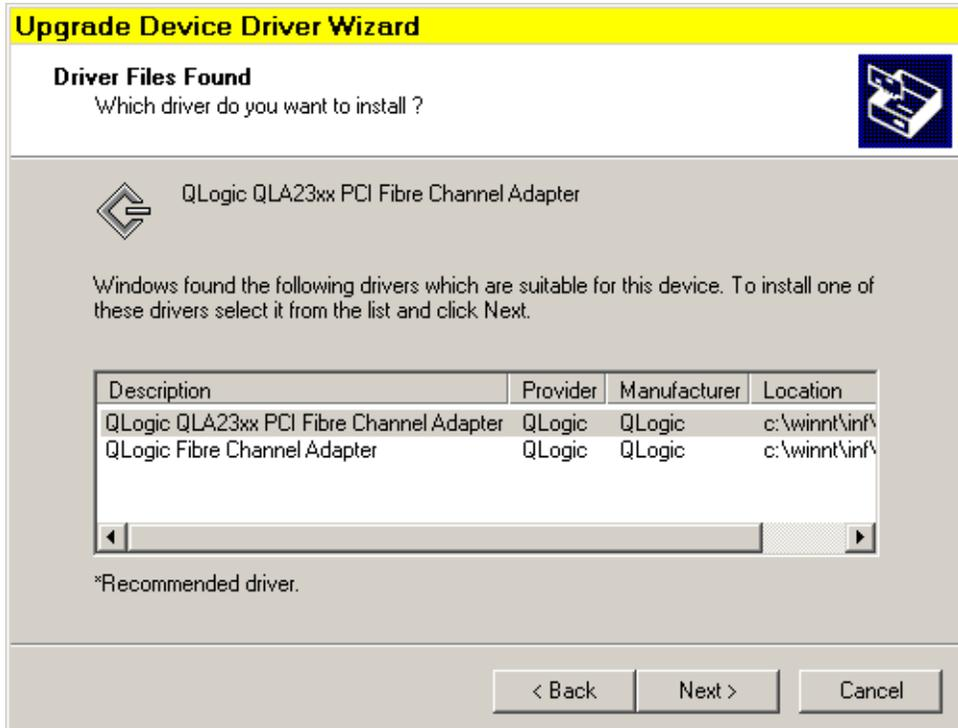

Figure 7 Driver Files Found dialog
14. Select the driver with the source of the directory you unzipped the drivers in. *Do not* select the driver in the windows directory (see Figure 7 on page 8). Make sure that you check the path of the driver you are installing.